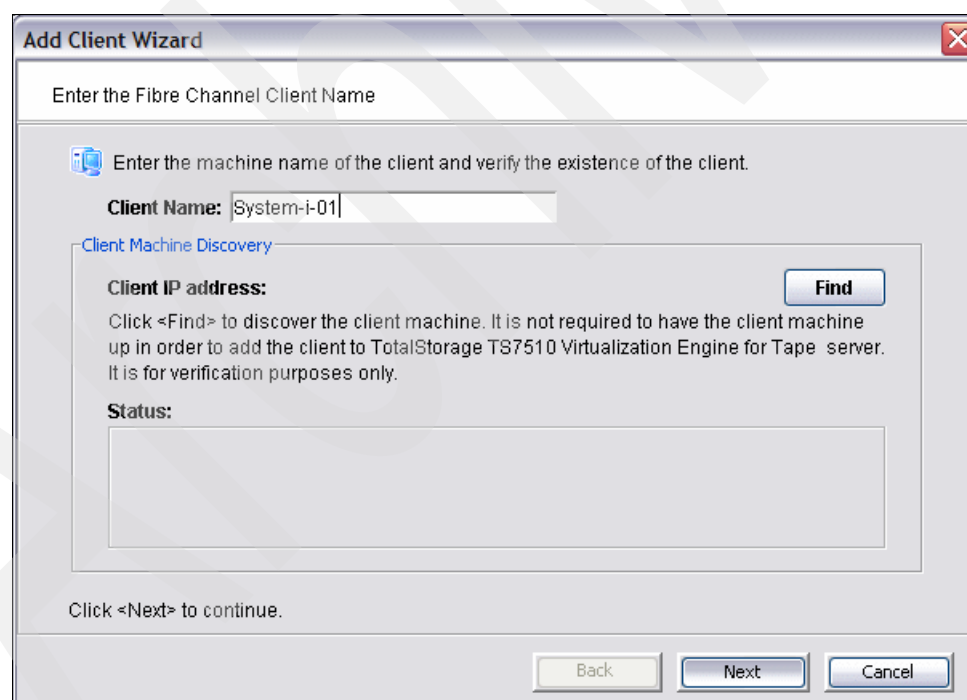

Figure 5-45 Add Client Wizard: Specifying the client name of the Fibre Channel
2. In the Enter the Fibre Channel Client Name panel (Figure 5-45), type the client name. Client name indicates the name of initiator IOA (i5/OS partition Fibre Channel adapter). You can specify the name as you want. Then click **Next**.